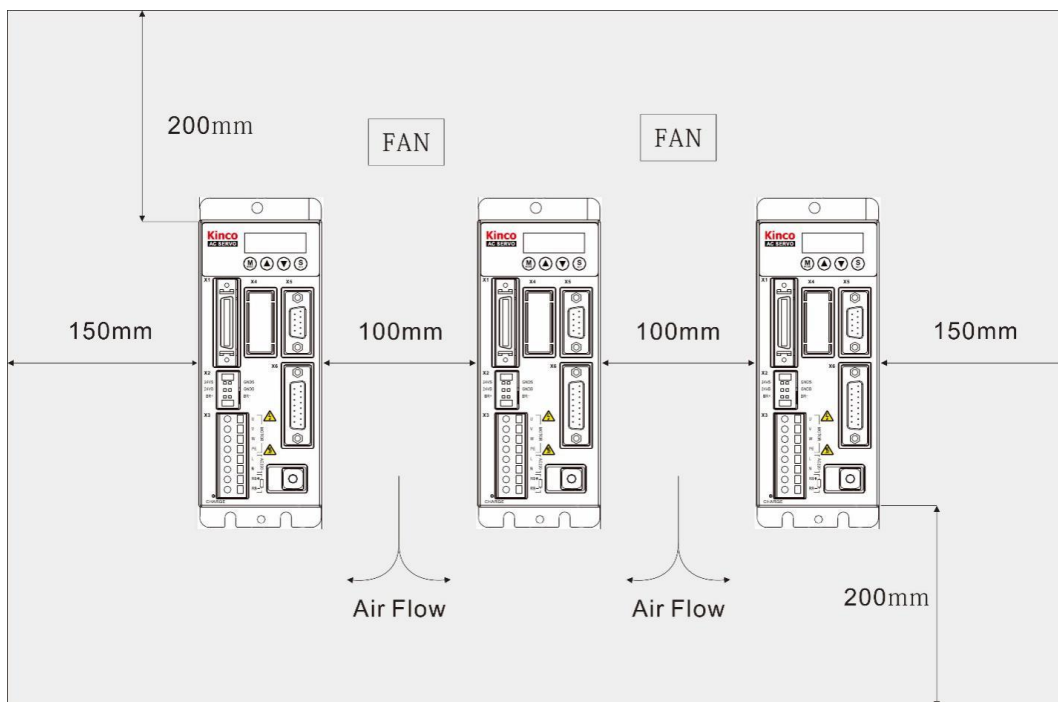

Figure 1-1 Installation Direction and distance Requirements
- Please strictly install the servo driver according to the installation method shown in Figure 1-1.